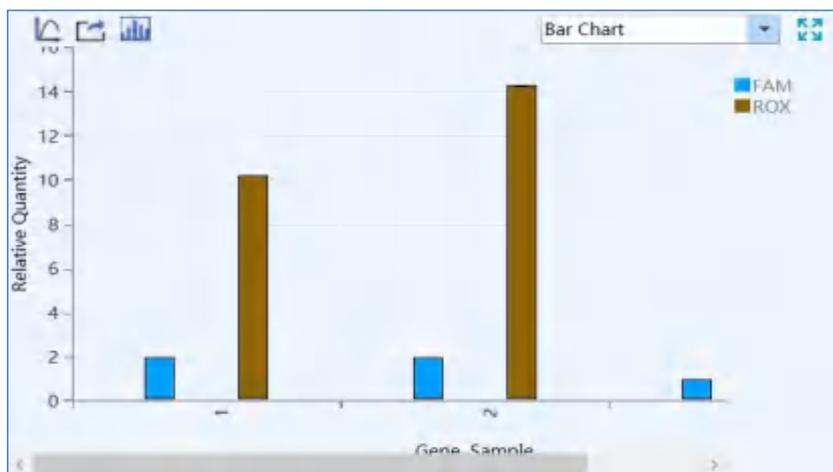

Figure D-10.1. Rel Quant analysis interface - Bar Chart function module
① **Reminding:** the parameter descriptions of *Amplification Curve*, *Sample Setting*, *Result Table*, *Standard Curve*, *Raw Curve*, *Raw Fluorescence* and *Heat Map* functional modules are same with those introduced in *D-3.3.4.1 Abs Quant*.
I. **Bar Chart:** display the relative ratio relationship between target gene & sample and reference gene & sample, as shown in figure D-10.1.